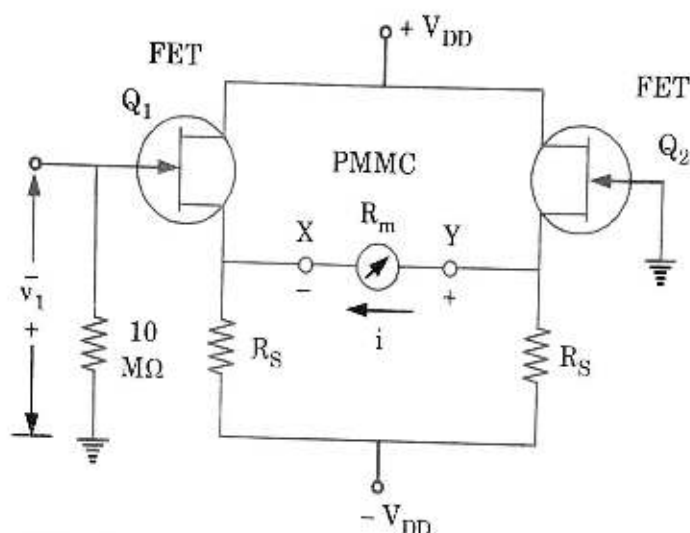

Fig. 2.2.1. The source follower electronic voltmeter.
1. The source follower electronic voltmeter is shown in Fig. 2.2.1. Two FETs form the upper arms of the bridge circuit, and the source resistors form the lower arms.